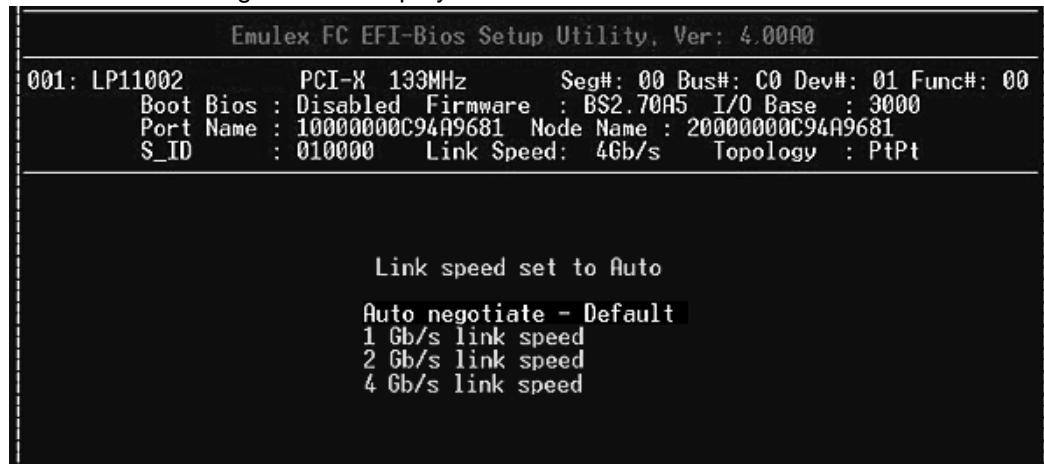

Figure 33: Force Link Speed Setup screen
Use this feature to change, or force, the link speed between ports instead of doing an auto negotiating. The supported link speeds depend upon the adapter. The screen (Figure 33) will only show options that are valid for the current adapter.
1. On the Adapter Configuration menu, select **4. Force Link Speed** and press **<Enter>**. The screen shown in Figure 33 is displayed.